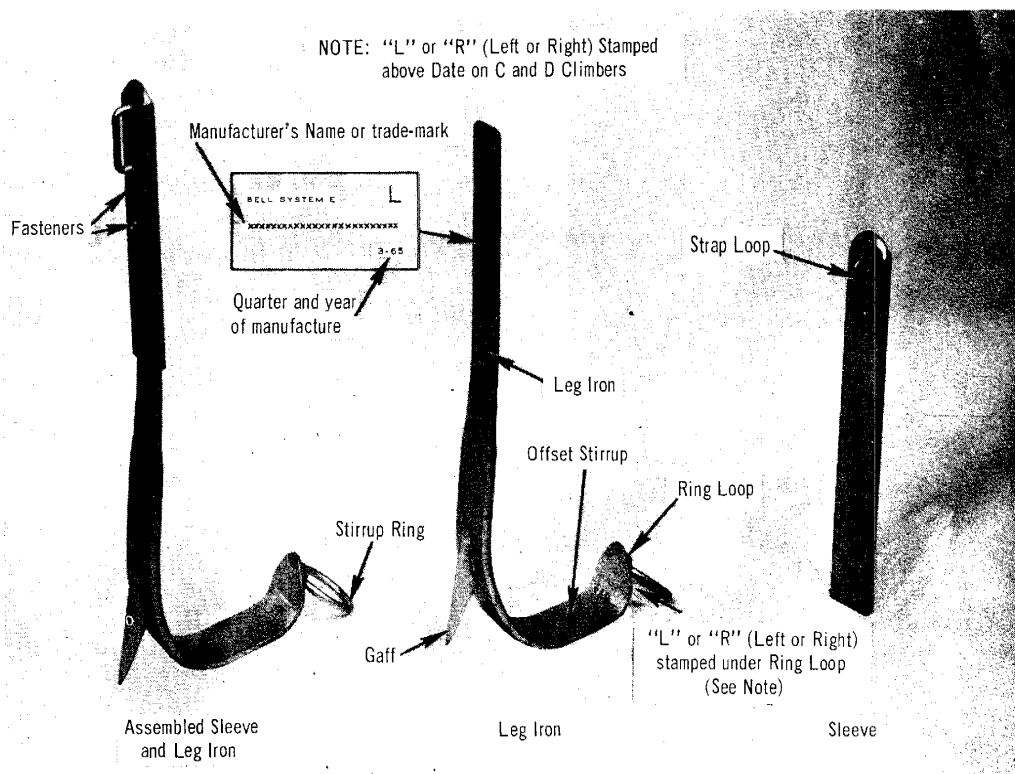
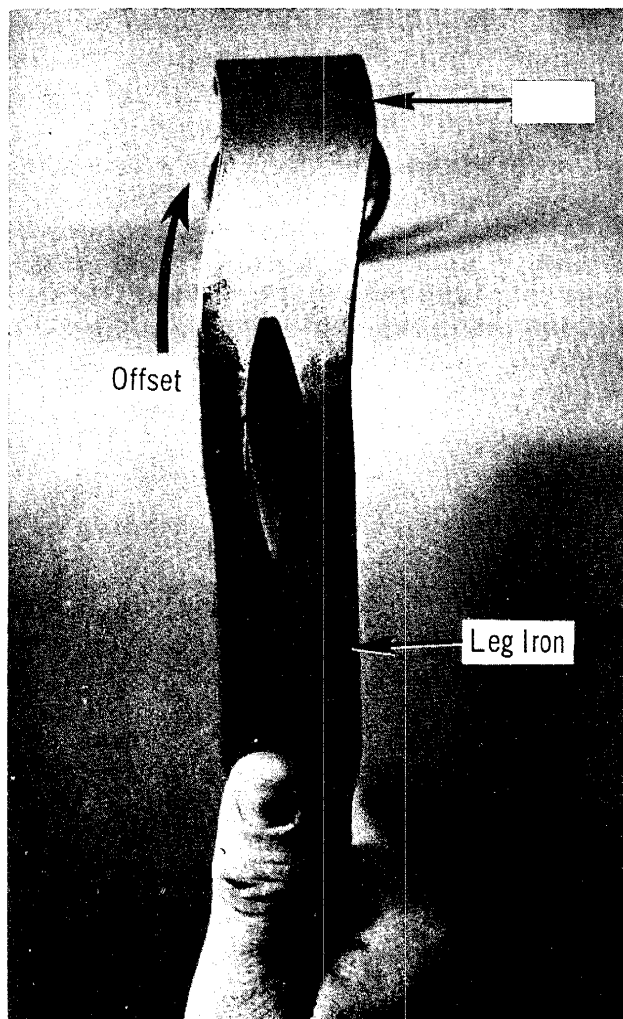

Fig. 1 — E Climber
Fig. 2 — Stirrup Offset "Right"
superseded by the D Climber in which the stirrup was widened 1/4 inch to give more room for overshoes and the gaff raised 1/8 inch for better ground clearance when stepping off a pole. The E Climber, Fig. 1, which supersedes the D
2.02 Adjustable climbers have offset stirrups, therefore, they are made for the right and left foot and are marked "R" or "L" on the appropriate climber as indicated in Fig. 1. These climbers can be identified as right or left by remembering that the offset of the stirrup is toward the front of foot. Another method is to hold the climber with gaff toward you and pointing up, then noting which direction the stirrup is offset. If the offset is to right, it is a right climber as in Fig. 2; if the offset is to left, it is a left climber.